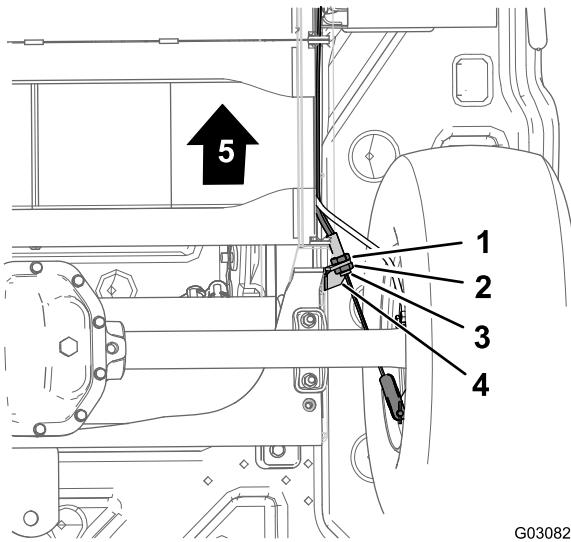

Figure 48
3. At the bottom of the machine, loosen the rear-jam nut for the threaded adjuster of the parking-brake cable 4 turns (Figure 48).
4. Tighten the forward jam nut (Figure 48).
- A. Loosen the forward-jam nut (Figure 48) for the threaded adjuster of the parking-brake cable 1 turn.
- B. Tighten the rear jam nut (Figure 48).
- Loosen the rear-jam nut (Figure 48) for the threaded adjuster of the parking-brake cable 1 turn.
- Tighten the forward jam nut (Figure 48).